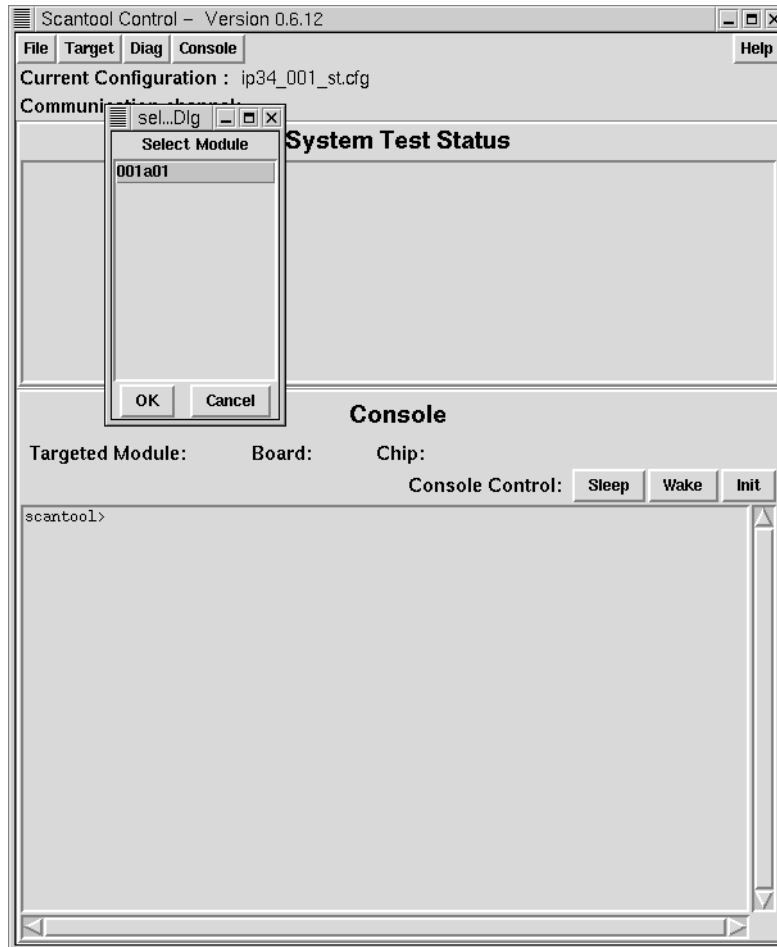

Figure 2-17 Selecting the Module to Use
- Double-click on 001a01. (Refer to Figure 2-17.)